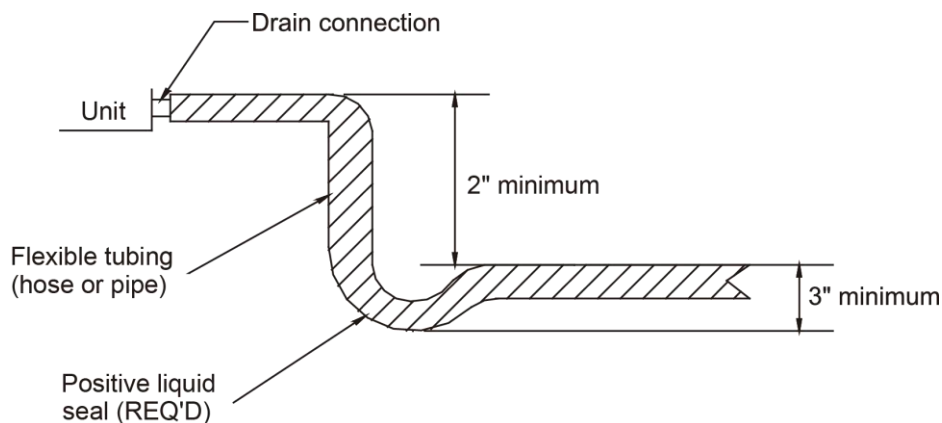

Fig 4.4
- (1) It is not allowed to connect the condensate drain pipe into waste pipe or other pipelines which are likely to produce corrosive or peculiar smell to prevent the smell from entering indoors or corrupt the unit.
- (2) It is not allowed to connect the condensate drain pipe into rain pipe to prevent rain water from pouring in and cause property loss or personal injury.
- (3) Condensate drain pipe should be connected into special drain system for air conditioner.
- (4) The drain pan has primary and secondary drain connection (Figure 4.4). Condensate removal is performed by attaching a 3/4" PVC pipe to the evaporator coil pan and terminated in accordance with local or state Plumbing/HVAC codes. The installation must include a "P" style trap that is located closely to the evaporator coil. Do not over-tighten the drain connection(s) in order to prevent possible damage to the evaporator drain pan. See Fig 4.4 for details of a typical condensate line "P" trap.